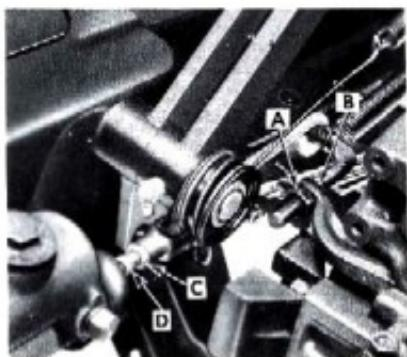

Fig. 44—Clutch and Brake Pedal Travel Adjustment
-Loosen the lock nut "A" (fig. 44) on clutch release rod and back off the adjusting nut "B" to increase the pedal free travel, or tighten the adjusting nut "B" to decrease the pedal free travel. When correct travel is obtained, tighten the lock nut "A" and recheck the pedal free travel.